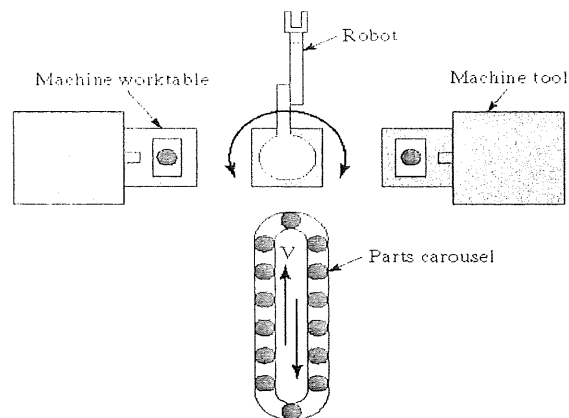

Figure 5: Automated Manufacturing Cell
- b) By any definition, Figure 5 shows an automated manufacturing cell but is it flexible manufacturing cell? **Evaluate** this situation by giving details explanation. (10 Marks)